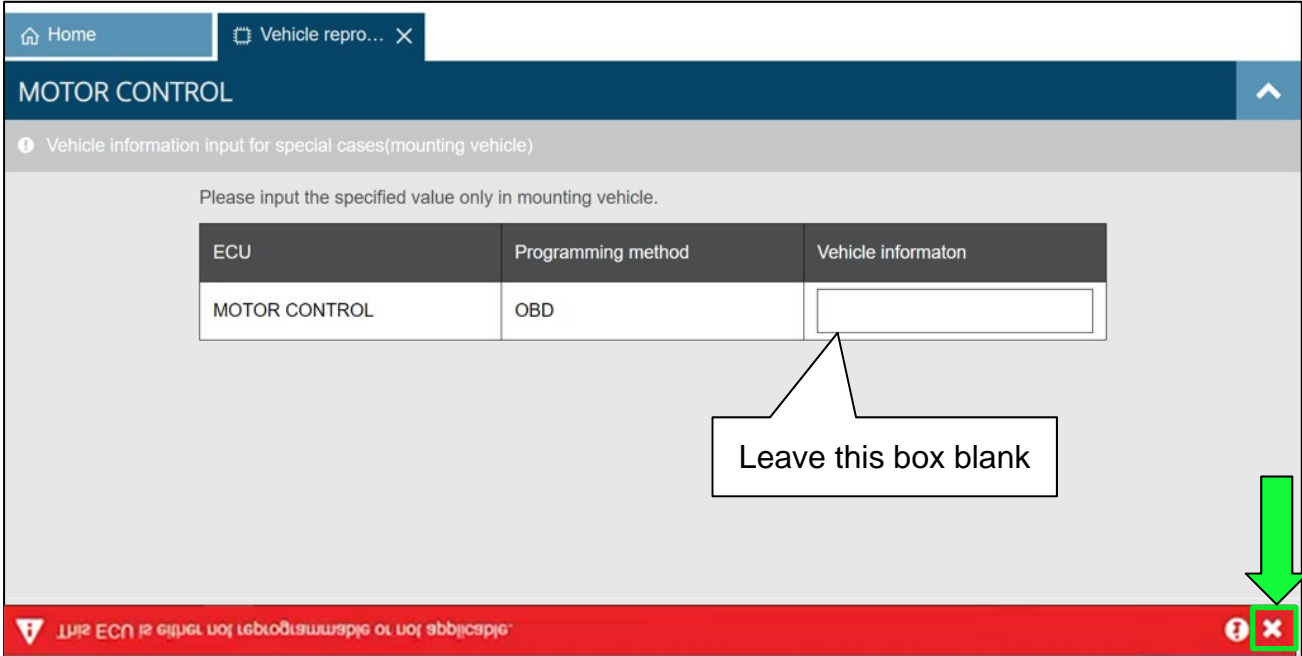

Figure 8
- 14. Select the "X" as shown in Figure 8.